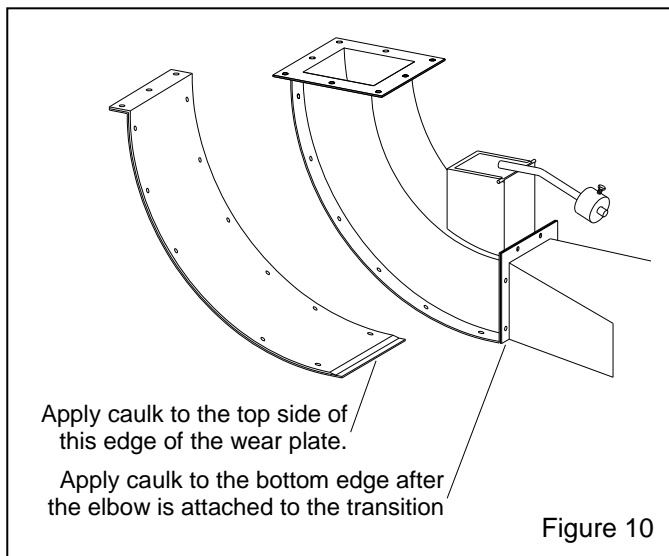

Figure 10
**12.3.5** Apply a bead of caulking to the top side of the new wear plate as shown in Figure 10, and install the elbow onto the transition. Apply new gasket material if necessary.